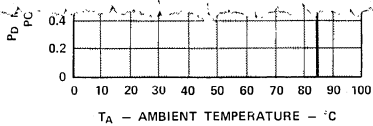

Figure 2. Maximum Allowable Power Dissipation vs. Ambient Temperature as a Function of Thermal Resistance IC Junction to Ambient Air. $R\theta_{JA}$.
1. The HDSP-2351/-2352/-2353 should be derated linearly above 50°C at 24.3 mW/°C, based on a device mounted such that the thermal resistance from IC junction to ambient is 45°C/W (10°C/W $R_{\theta J-PIN}$ and 35°C/W $PIN-A$). See Figure 2 for power deratings based on lower thermal resistance mounting.
The light output of the HDSP-235X devices is a function of temperature, decreasing 1.5% for each 1° C increase in junction temperature. Therefore, it is desirable to maintain as low device junction temperature as possible to insure sufficient light output for sunlight readability. This is preferably achieved by designing for a low junction to ambient thermal resistance, or alternatively by controlling total display power dissipation by derating, see data sheet Figure 2.